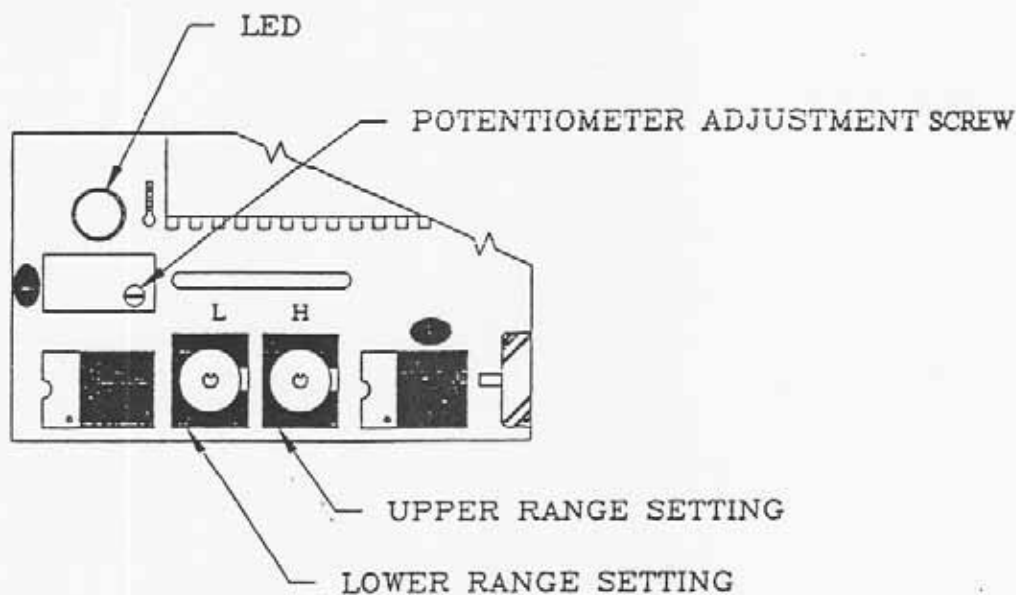

Figure 1
2. With power on, pull pendant trigger to full on position. Adjust potentiometer adjustment screw located next to the red light (see Figure 1) until light just turns off, then turn trim pot back until the light just comes on. The light should stay on during full trigger movement. Clockwise rotation of the trim pot will turn light off. Counter-clockwise rotation will turn the light on. This "tunes" the amplifier to the trigger potentiometer.
3. After warming the hydraulic system oil, determine which function should be used to set the low position switch (ROTATE USES THE LEAST AMOUNT OF PRESSURE). Activate that function with trigger released, and turn the lower range setting dial (REF. FIG 1: MARKED WITH "L" ON CIRCUIT BOARD) until the desired speed is reached. The "Zero" and the "F" on the dial are opposite ends of the switch. To adjust the low set point, turn **CLOCKWISE DIRECTION** for **INCREASED FLOW**, **COUNTER CLOCKWISE DIRECTION** for **DECREASED FLOW**. This adjusts the "Threshold Speed" for the trigger in the released position.
4. Operate the boom up function with trigger pulled back to the maximum position. Turn the high range setting dial (REF. FIG 1, MARKED WITH "H" ON CIRCUIT BOARD) until there is a noticeable decrease in speed, then back up one or two notches as desired. "Zero" is the maximum speed setting and "F" is the most reduced speed setting. To set the high range dial, turn **CLOCKWISE DIRECTION** for **DECREASED FLOW**, **COUNTER CLOCKWISE DIRECTION** FOR **INCREASED FLOW**. This operation adjusts the trigger "Dead Band" at the fully pulled position.
the problem probably lies in either the Overload System or the Anti-2-block system or both. If these three functions are NOT WORKING and most other functions are, an investigation should be made as follows: (reference: Figure 1 )